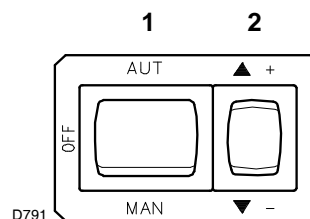
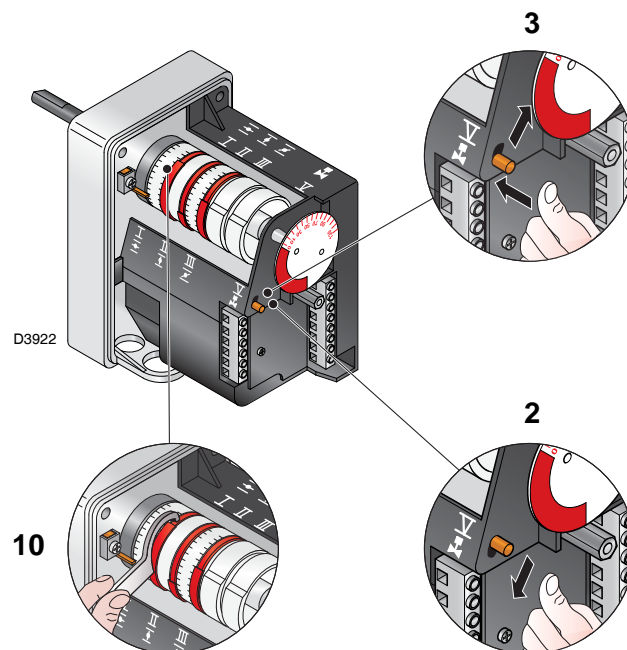

Fig. 28
Fig. 32
Close the thermostats/pressure switches and turn the switch to **MAN** (Fig. 28).
Now press the "increase output" button 2)(Fig. 28), and keep it pressed until the servomotor has opened the air damper and the gas butterfly valve.
Press the “reduce output” button 2)(Fig. 28), and keep it pressed until the servomotor has closed the air damper and the gas butterfly valve at 50° (adjustment made in the factory).
- If it is necessary to reduce it, slightly reduce the angle of cam III (Fig. 32) with small, regular movements (i.e. bring it from an angle of 65° to 63° - 61°....).
- If it is necessary to increase it, lightly press the “increase output” button 2)(Fig. 28) (open the gas butterfly valve by 10-15°) and increase the angle of cam III (Fig. 32) with small, regular movements (i.e. bring it from an angle of 65° to 67° - 69°....).
For any necessary adjustment of cam III, especially for small movements, use the specific key 10)(Fig. 32).
Lightly press the “increase output” button 2)(Fig. 28) so the servomotor rotates by about 15°.
Key (Fig. 32)